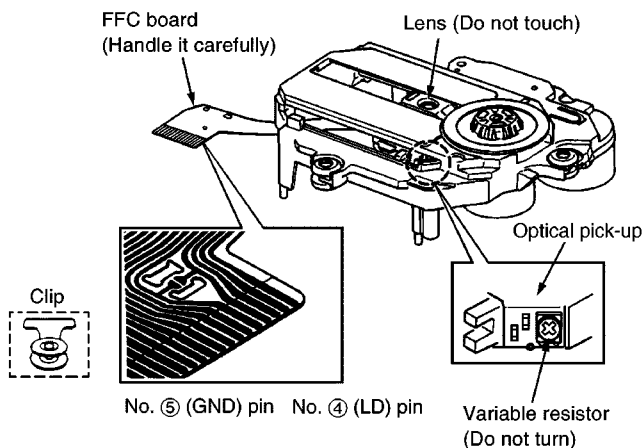

Fig. 2-1.
2. To protect the laser diode against electrostatic breakdown, short the flexible board (FFC board) with a clip or similar object. Refer to Fig. 2-1.
4. Do not turn the variable resistor (laser power adjustment). It has already been adjusted. Refer to Fig. 2-1.